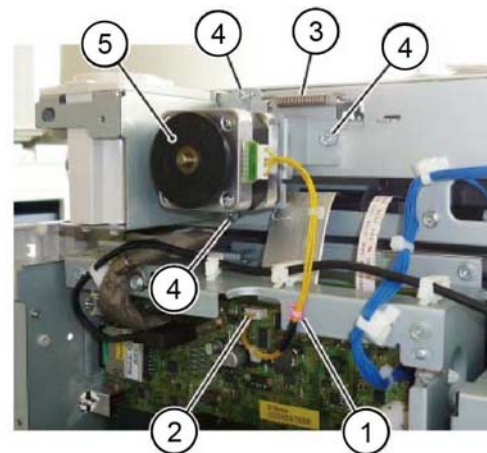

Figure 1 IIT scan motor assembly removal
4. Remove the IIT scan motor assembly, **Figure 1**:
- a. Release the cable clamp (1).
- b. Disconnect the connector (2).
- c. Remove the extension spring (3).
- d. Remove three screws (4).
- e. Remove the IIT scan motor assembly (5).